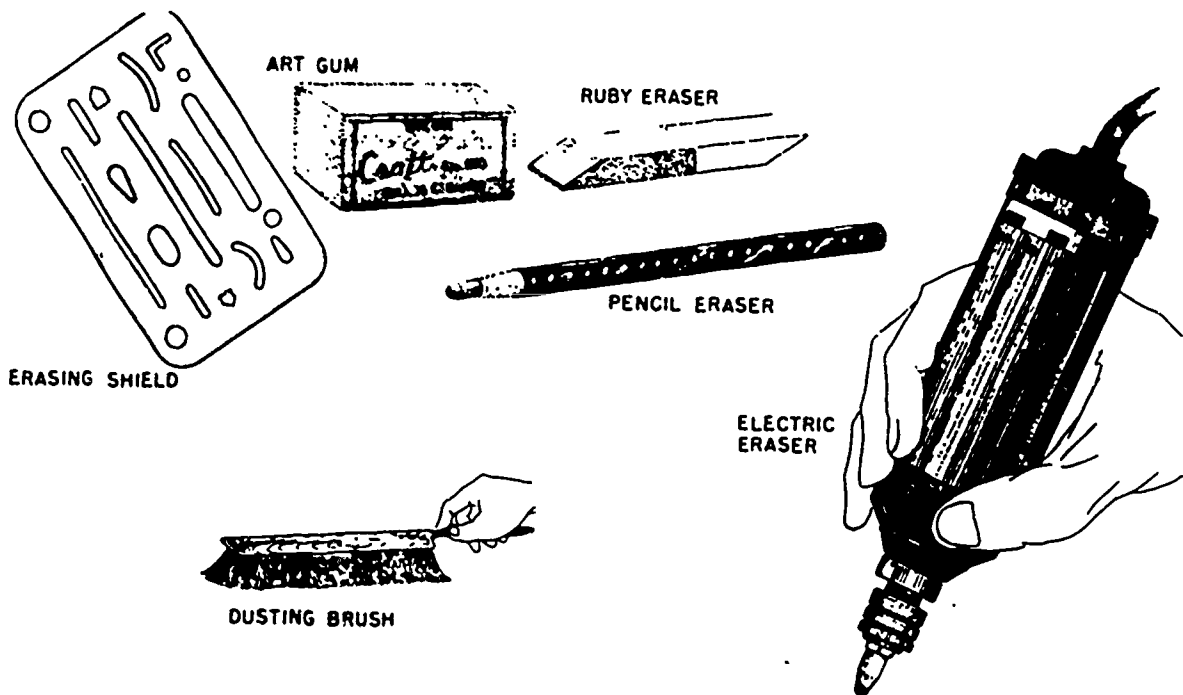

Figure 2-19. Erasing equipment.
**Erasing Equipment.** Erasers and other erasing equipment are important tools of the graphics specialist. Many drawings can be saved by a good job of erasing. Figure 2-19 shows some of the erasing tools a specialist uses. Probably the most important of these is the red ruby eraser. It is designed primarily for pencil corrections, but can also be used to remove ink. It will not destroy the surface of the paper if used properly, and this is especially important when you need to re-ink lines in the erased area. If the surface of the paper is damaged, the ink, when it is reapplied, will bleed or spread and ruin the drawing. Sometimes you can repair a damaged area by burnishing the area with a metal instrument or your fingernail.